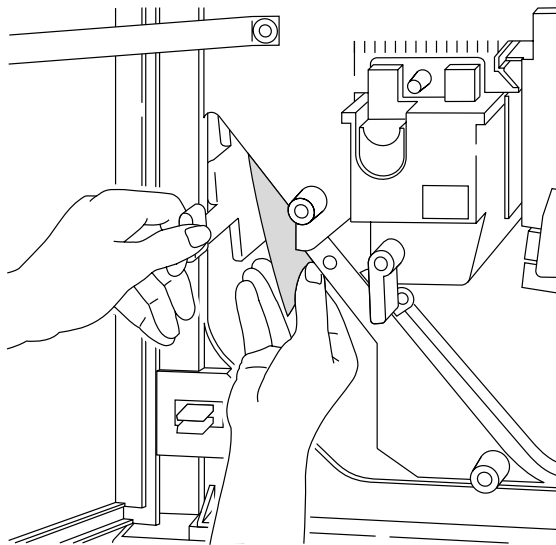

Figure 27 Clearing the reversing area
Step 1 Open the front door of the printer and remove any jammed paper in the reversing area. See Figure 27.